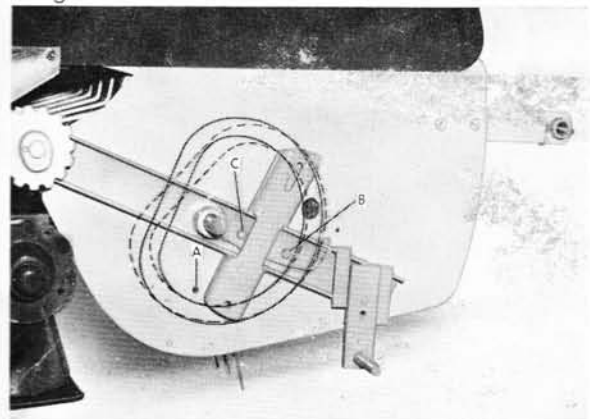

FIGURE 35A
2. Remove bolts A, B and C Figure 35A (these may be removed easier by also removing the pickup drive sprocket).
4. Install bolts A, B and C Figure 35A.